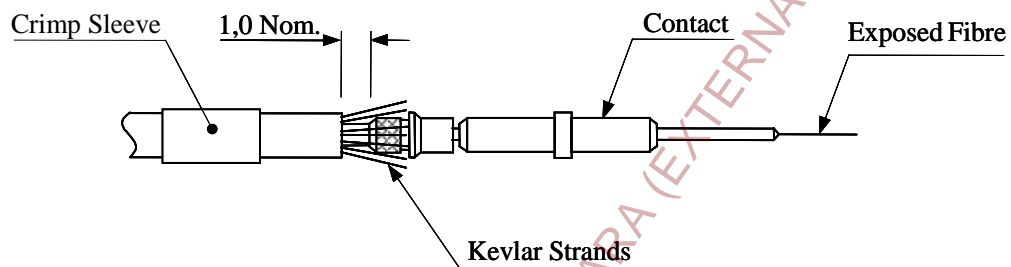

Figure 4
- 2.5.3 Fully push the contact onto the fibre by rotating and counter rotating through 90° with respect to the fibre. The buffer end **MUST** enter the rear of the contact to its fullest extent with the cable sheath approximately 1mm from the back of the ferrule. Refer to Figure 4